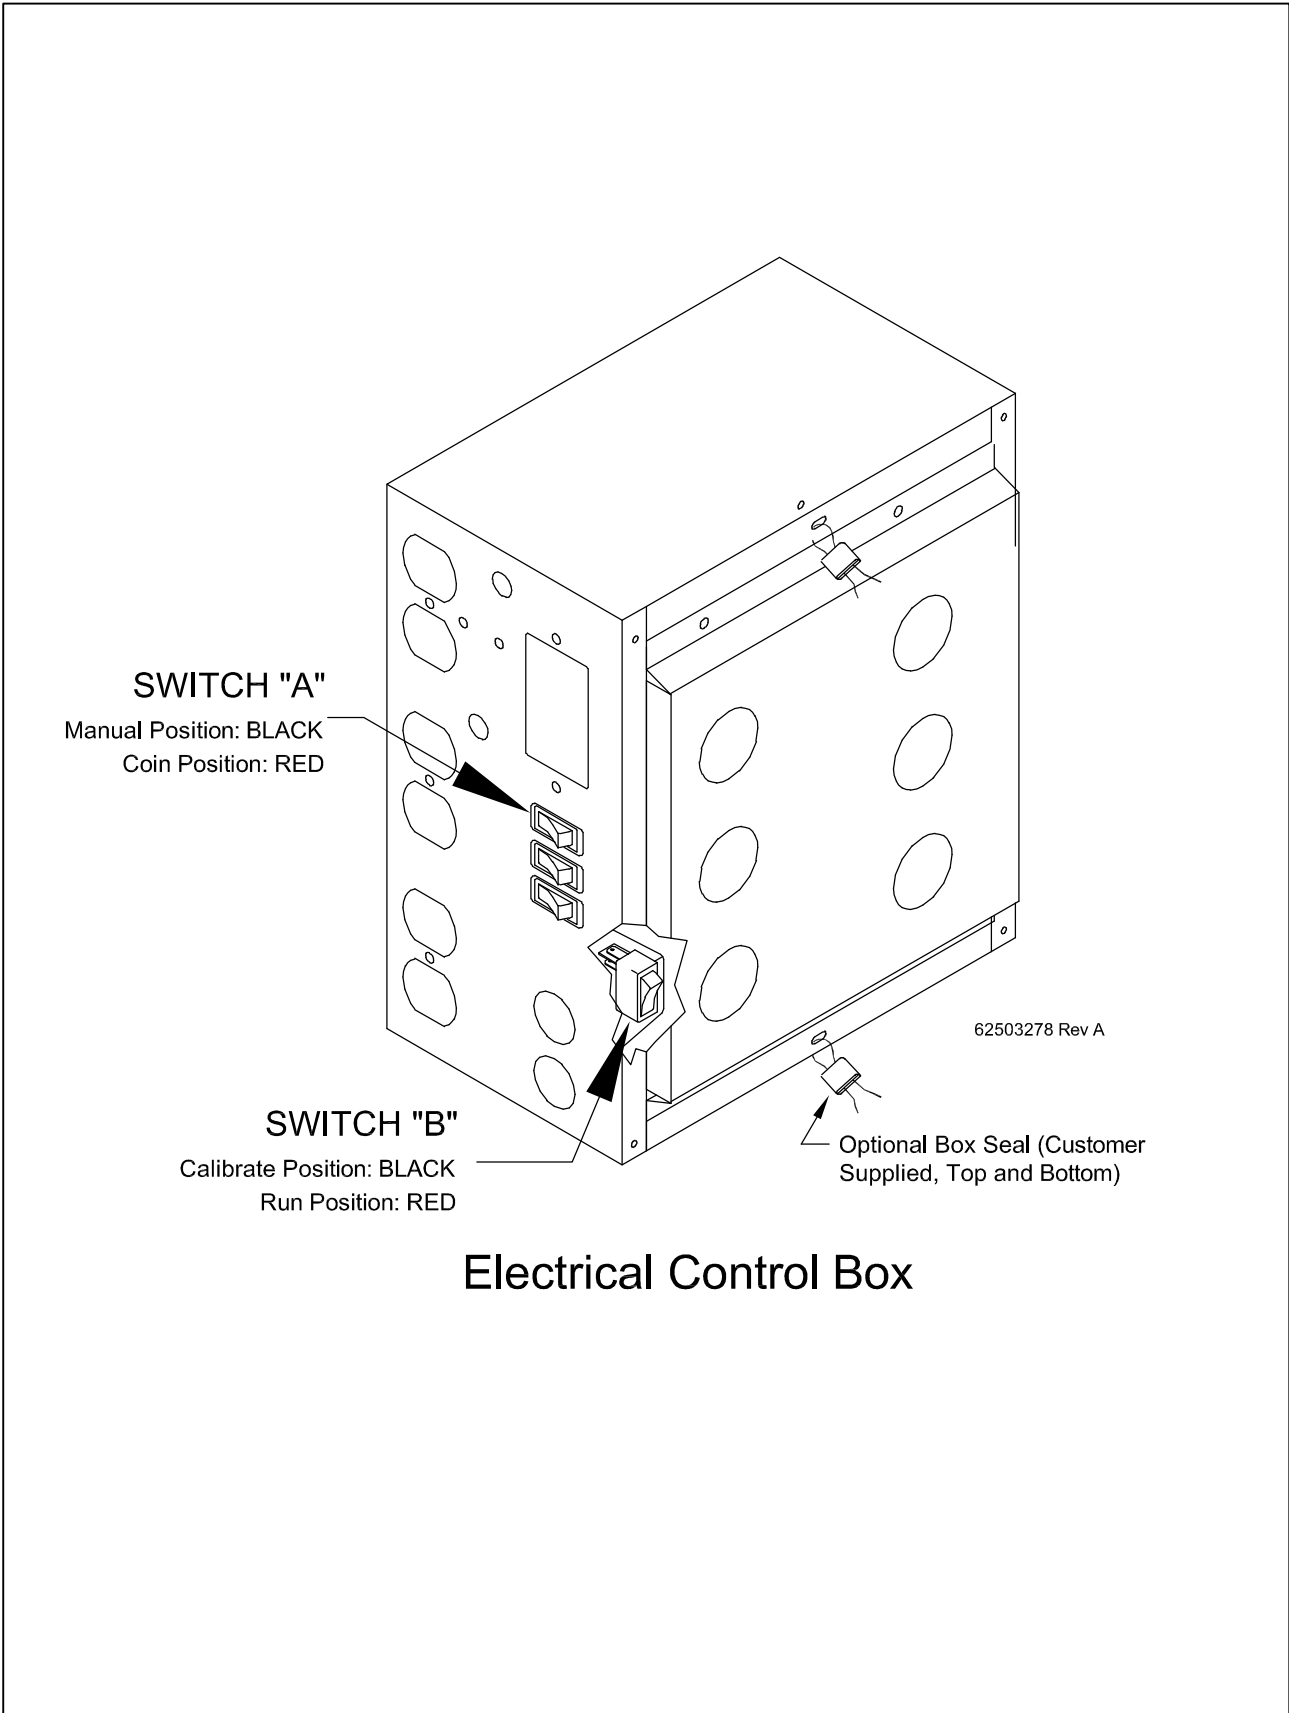

FIGURE 4
Before vending, verify the following switches are set properly: (Refer to Figure 4)
(Refer to Figure 4)
1. Switch “A”, place in “Manual Mode” position. Refer to Figure 4. **NOTE: This is the normal position for non-coin units.**
2. Switch “B”, place in “CAL” position. Refer to Figure 4. (Note: Switch “B” is located inside the electrical control box)
3. Press and hold the red “Pause Vend” button and simultaneously push the desired selection button to reset respective selection button volume to zero (0). Release both buttons. **(Note: Pause Button location: Coin Machines outside of door, Non-Coin machines inside of door.)**